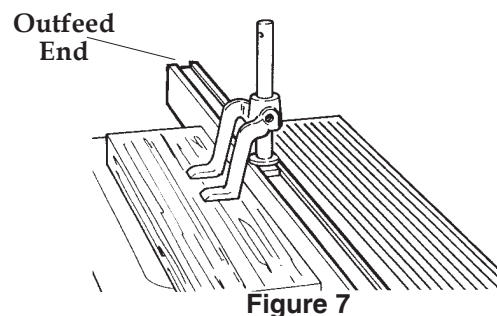

Figure 7
1. Position fence 2-1/2" behind chisel, lifting up on washer (9), engage shoulders of the T-nut (10) in T-slot at outfeed end of the rip fence. See Figure 7. With foot (7) facing the mortising chisel, slide hold-down in the rip fence until the chisel is centered between the hold-down feet.